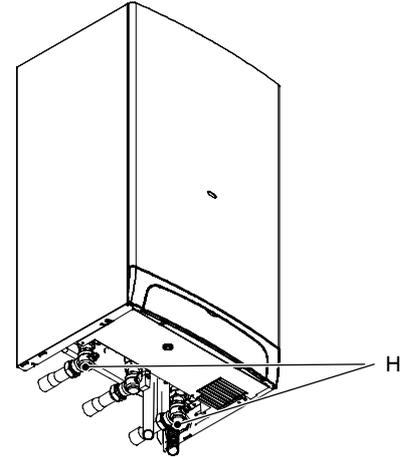

Fig. 7 – bottom view of the boiler
- 1 Close the c.h. circuit flow and return cocks *H*. (Fig. 7).